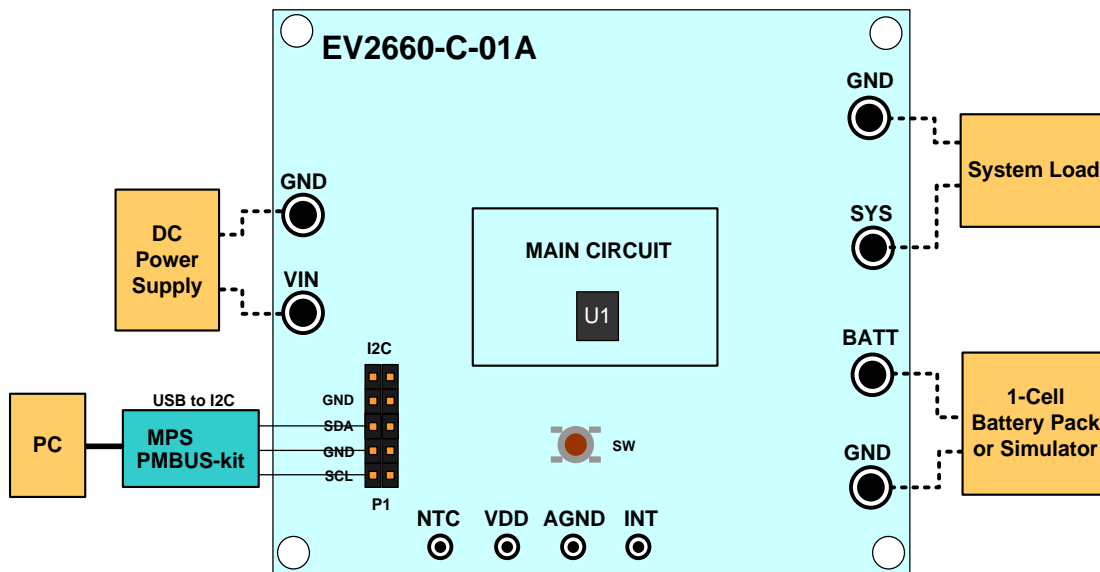

Figure5 Test Setup for MP2660
4) Original Test Setup for MP2660 in Figure 5.